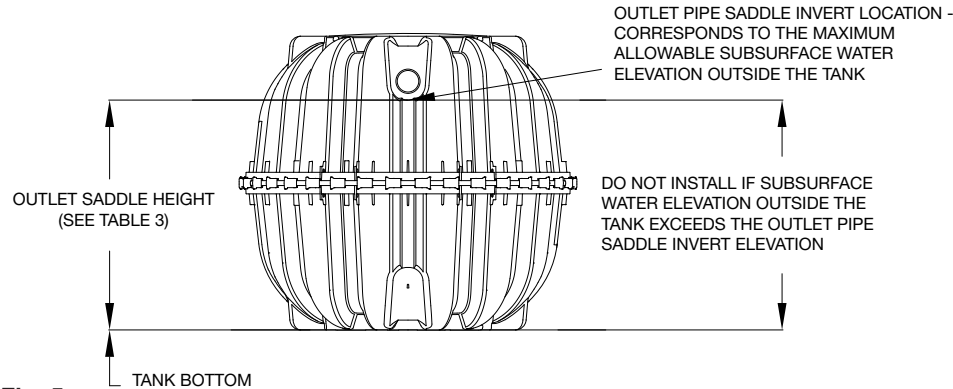

Fig. 5
3. Infiltrator interceptors shall not be installed where the subsurface water level outside the interceptor exceeds the height of the outlet pipe saddle. See Figure 5.